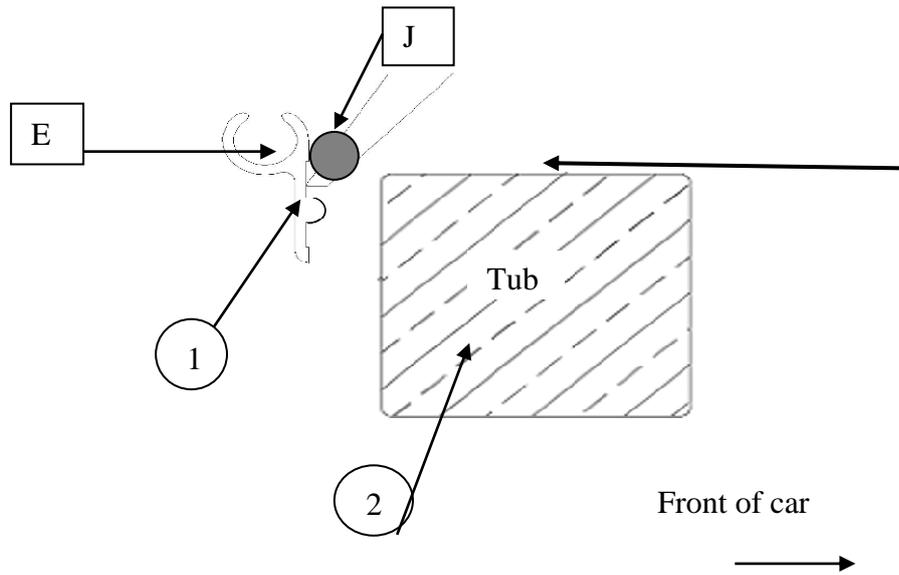

Figure 1
- STEP 2** Rest the aluminum rope track on the side rails, and push forward to the vertical face of the tub. Figure 1.